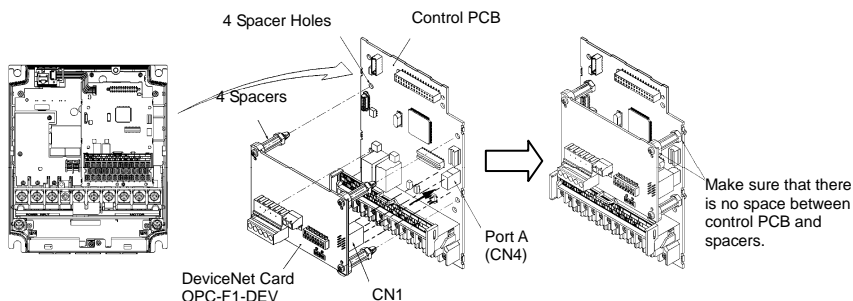

Figure 3 FRN010F1S-2U -
- (1) Remove the covers from the inverter to expose the control printed circuit (Figure 3).